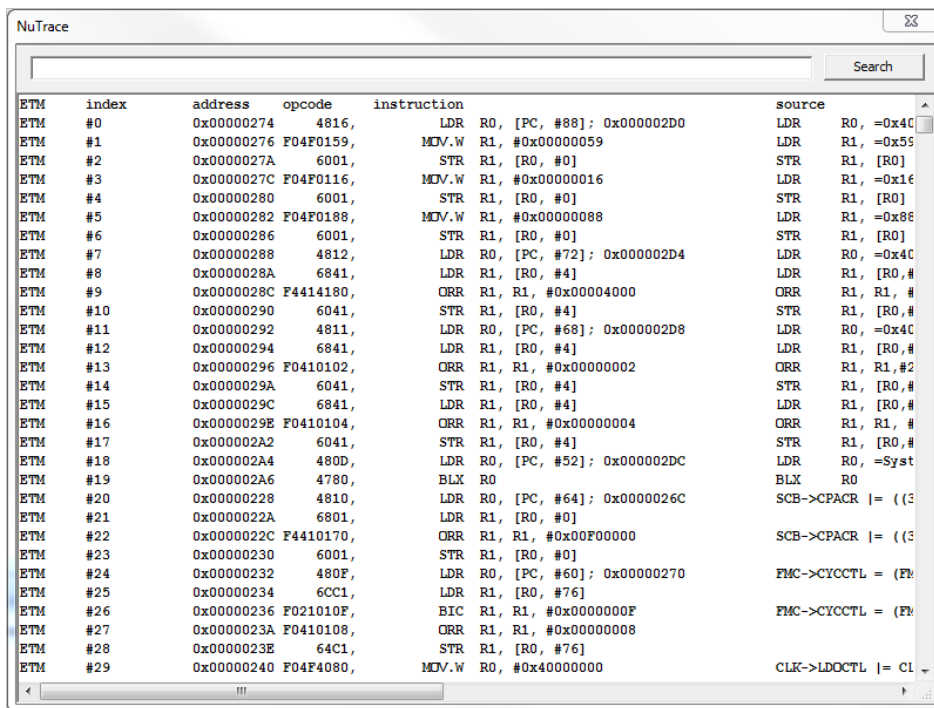

Figure 5.2-24 Tracing Information Dialog
- (13) After doing above settings, user must start the debugger. In Debug mode, please select **Debug** → **NuTrace** to invoke the tracing information dialog, and it will show every single executed instruction in the current application as shown Figure 5.2-24.